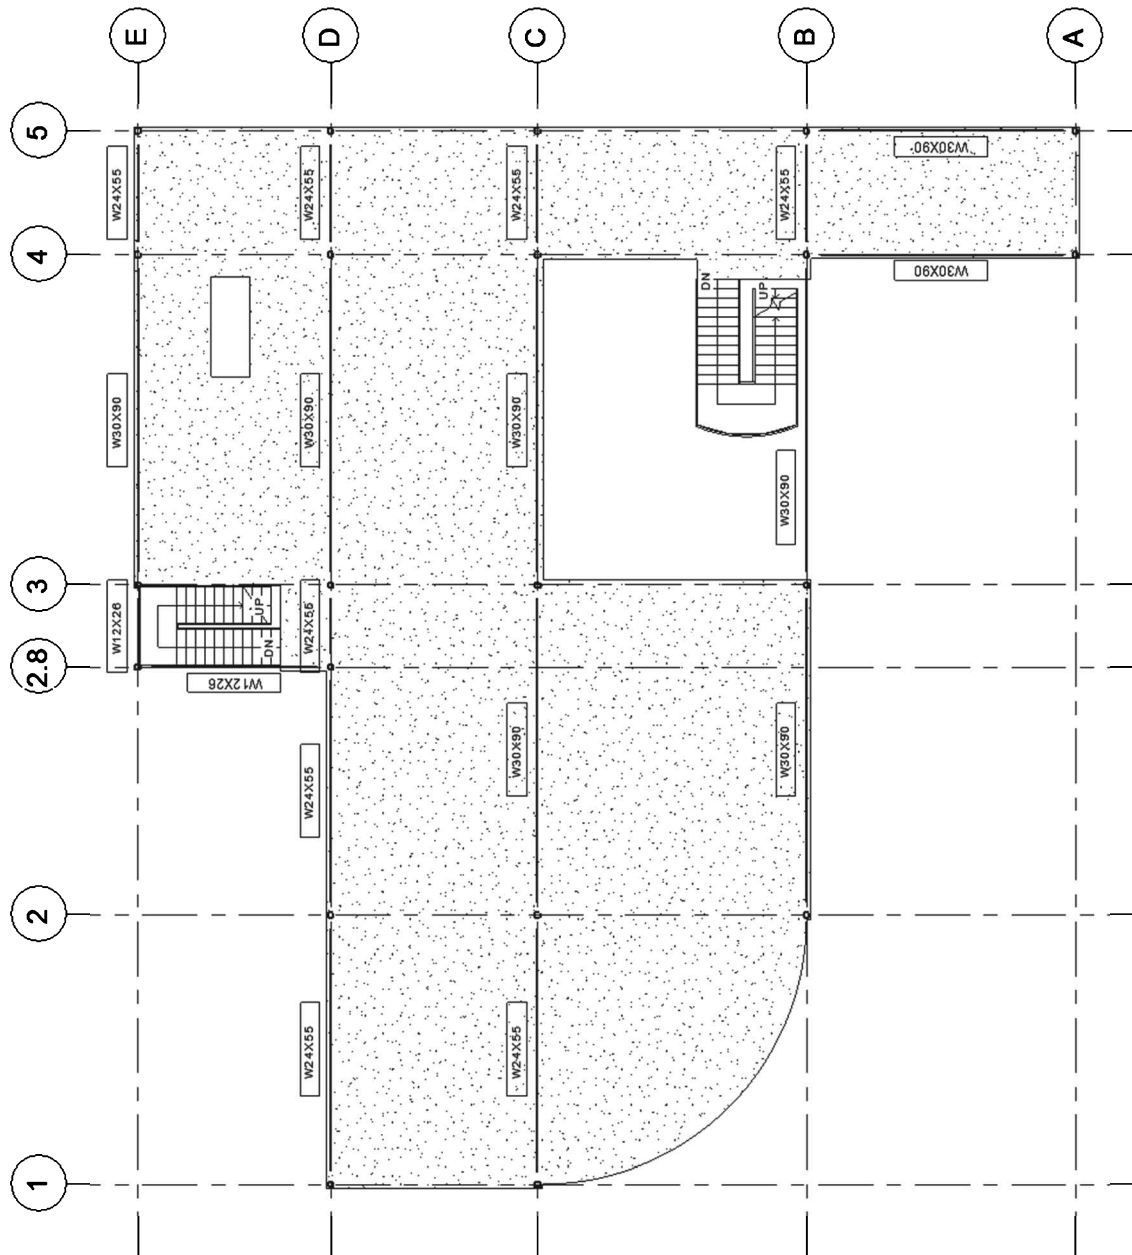

FIGURE 8-3.20 Level 2 beams with tops 8" below the Level 2 plane; image rotated to increase size
35. Place all the beams shown in Figure 8-3.20.